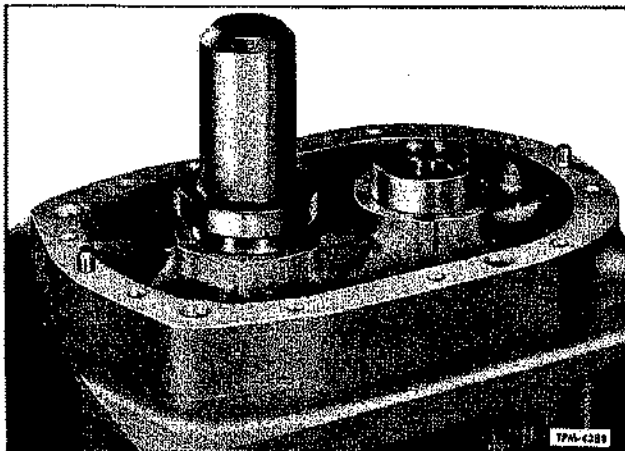

Figure 22—Installing Rotor Shaft Bearings
2. Using tool J6270-4 shown in figure 22, tap bearings into end plates.